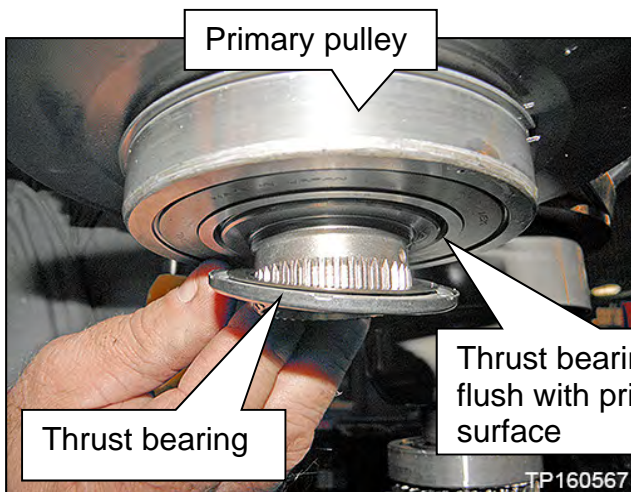

Figure 89
70. Install the original thrust bearing on the primary pulley of the new sub-assembly (Figure 89).